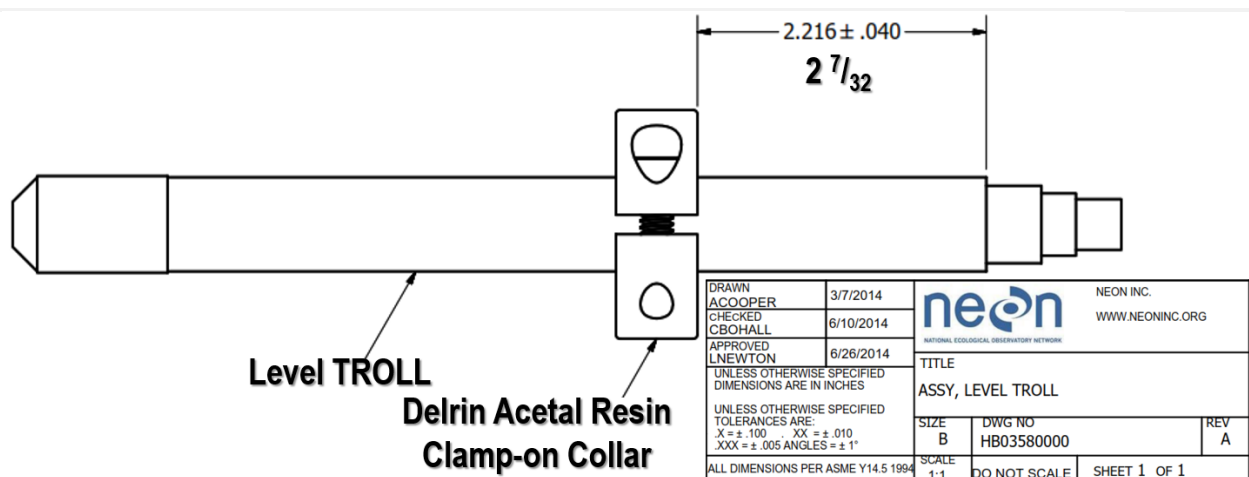

Figure 22. HB03580000 Assembly, Level TROLL | Clamp-on Collar Location on Sensor
STEP 5 | Remove the sensor from the delrin acetal resin (i.e., crystalline plastic)^v clamp-on collar (use Figure 22 as an example). Remove biofouling/animal excrement from the clamp on-collar with a dry brush and stream water.
STEP 7 | Install the clamp-on collar to the “refreshed” Level TROLL 500 $2.216 \pm .040$ ($2 \frac{7}{32}$) from the sensor cable end (Figure 22). The Level TROLL 500 does not require configuration like the Aqua TROLL 200. It should “plug-and-play” upon reinstallation.